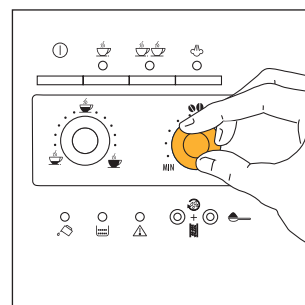
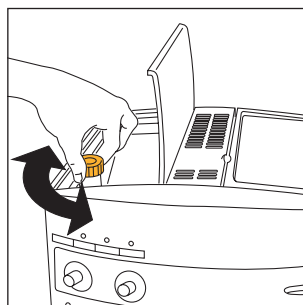

Fig.7
Fig. 17
- 2) Adjust the right-hand knob (Fig. 7) to set the desired taste of the coffee. Turning the knob clockwise increases the quantity of coffee beans that the machine will grind, and thus makes the taste of the coffee stronger. When using the machine for the first time, the correct position of the knob can be found by trial and error. Make sure not to turn it too far clockwise, otherwise the coffee will be delivered too slowly (in drops), above all when preparing two cups of coffee.
**NOTE 1 :** If the coffee is delivered a drop at a time or not at all, turn the grinding coarseness regulator (fig. 17) one click clockwise (see para. 6). Turn a click at a time until the coffee is delivered satisfactorily.
**NOTE 2:** If the coffee is delivered too fast and is not creamy enough, turn the right-hand knob (fig. 7) clockwise. Proceed by trial and error to find the correct position of the knob. Make sure not to turn the knob too far clockwise, otherwise the delivery may become too slow (in drops), above all when making two cups of coffee. If, after several coffees, the cream is still not satisfactory, also turn the grinding adjustment knob (Fig. 17) one click clockwise (see para. 6).
To resolve this problem, re-set the grinding coarseness on the coffee grinder by adjusting the knob (Fig. 17) one click anticlockwise (as described in chap. 6).
Nonetheless, after having made the first coffees, if delivery is too fast or too slow (in drops), the grinding coarseness must be adjusted using the knob (Fig.17) located inside the bean container. Turning one click (one number) clockwise achieves faster delivery of the coffee (without drops).